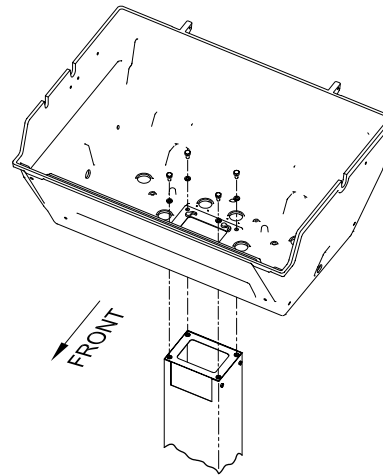

Figure 7
7. Position the grill head onto the post and fasten with ¼-20 x ¾ Hex Head Screws and 1/4 x 5/8 Flat Washers. See Figure 7.